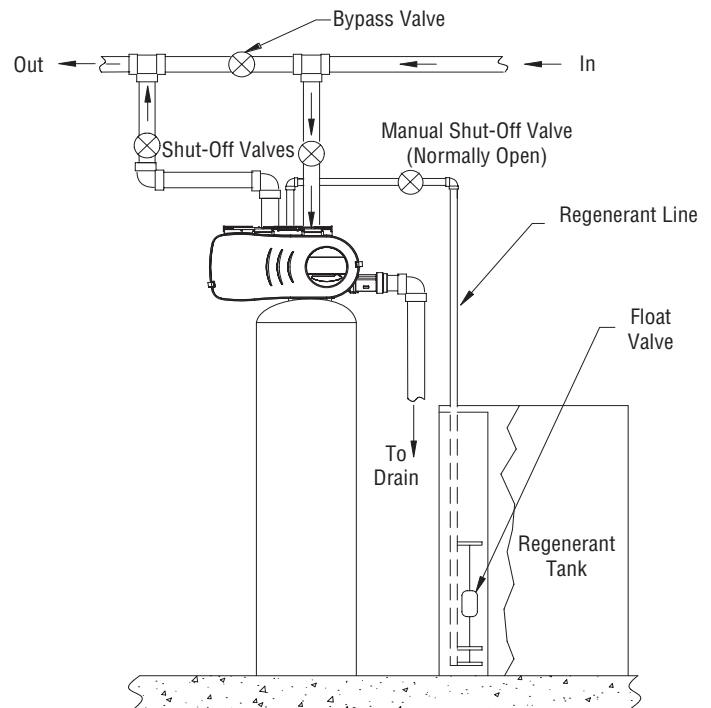
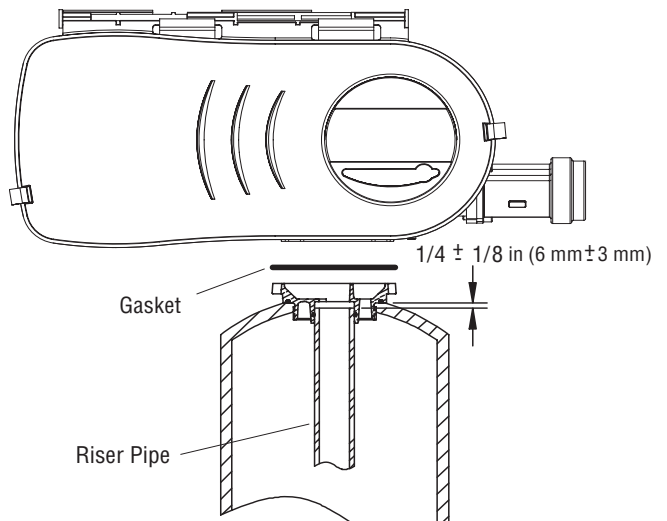

Figure 1 Typical Top Mount Installation
Figure 6 Layout for Top Mount
The water conditioner should be assembled, piped and wired according to the water treatment equipment manufacturer's recommendations and local requirements. The following instructions are provided as a general guide. Figure 1 through Figure 6 illustrate typical installations.
1. Make sure the riser pipe is 1/4-inch ± 1/8-inch ( 6 mm ± 3 mm) below the top of the tank, Figure 6.